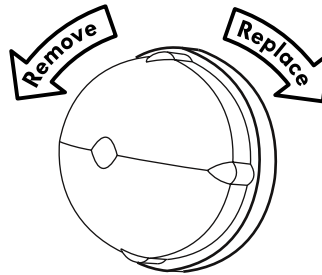
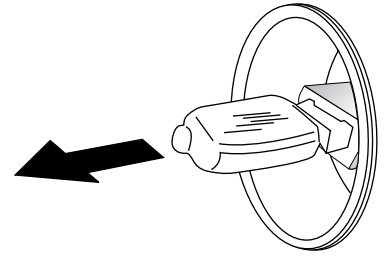

Figure 1 - Glass shield removal
Figure 2 - Pull bulb out.
2. The bulb is covered with a glass shield screwed in place (fig. 1). Replace bulb with 25-watt halogen appliance bulb only (fig. 2). **Please note: do not allow your fingers to touch the new bulb when replacing. This will shorten the life of the new bulb. Use a paper towel to cover the new bulb when installing.**
3. Replace the glass shield (fig.1). **The glass shield must be in place whenever the oven is in use.**